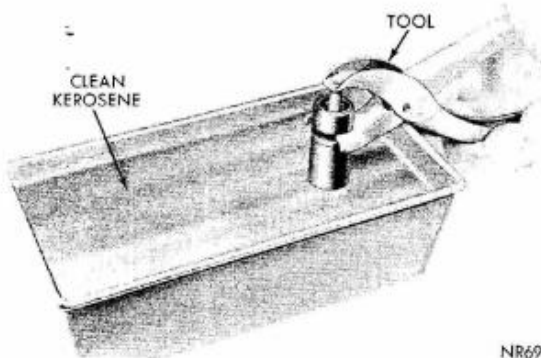

Fig. 21—Testing Tappet Using Tool C-3160
- (1) Fill a pan with clean kerosene.
- (2) Remove cap from plunger and plunger from tappet body.
- (3) Fill tappet body with kerosene and install plunger.
- (4) Unseat check valve with a brass rod to permit complete installation of plunger. Replace cap.
- (5) Hold tappet in an upright position and insert lower jaw of pliers, Tool C-3160, in the groove of tappet body (Fig. 21).
- (6) Engage jaw of pliers with top of tappet plunger. Test leakdown by compressing the pliers. If plunger collapses almost instantly as pressure is applied, disassemble tappet, clean and test again (Fig. 21).
- (7) If tappet still does not operate satisfactorily after cleaning, install a new tappet assembly.